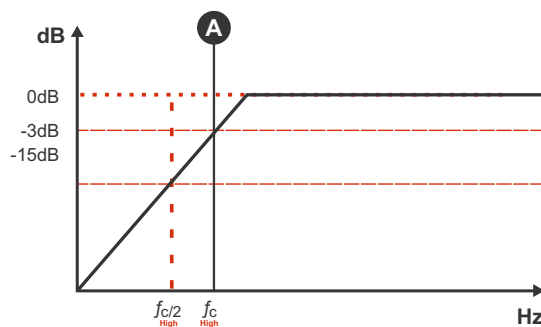

Figure 2
To use the high pass filter as in "Figure 2", select the key in the "FULL" position and the variable control "HIGH" at the frequency where you want to filter between 5Hz and 80Hz (A).